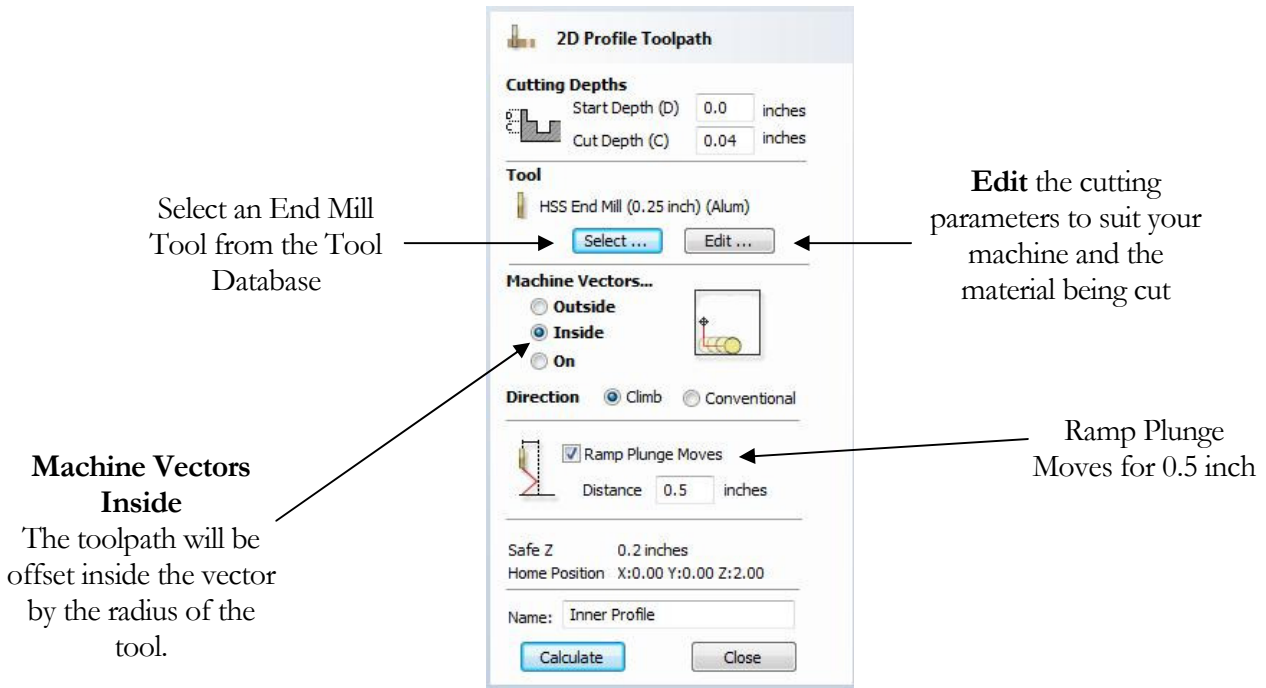

Figure 9. Inner Profile Toolpath parameters
5. Next, select the **Create Profile Toolpath**  icon from the **Toolpath Operations** list (Figure 8) and complete the form as shown below in Figure 9.